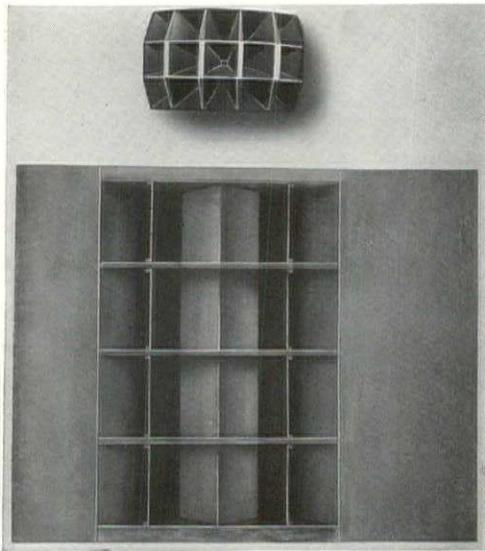

Figure 9. New di-phonic multi-cellular loudspeaker system for stage use.
3. Multiple speaker units should be provided to insure proportionately equal response at the very high and very low frequencies within the effective range. (Figure 9.)